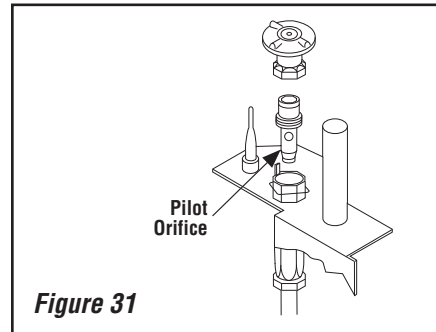

Figure 31
Step 6. Refer to **Figure 31** and remove the pilot hood assembly to access the hexed pilot orifice. Remove and replace the orifice with the one provided with the kit.